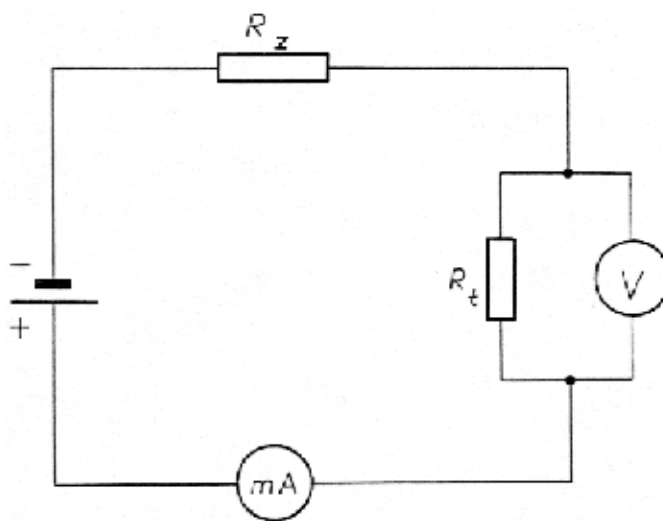

Figure 3. Circuit diagram for determining voltage-current characteristics:
3. Assemble the components according to Figure 3.